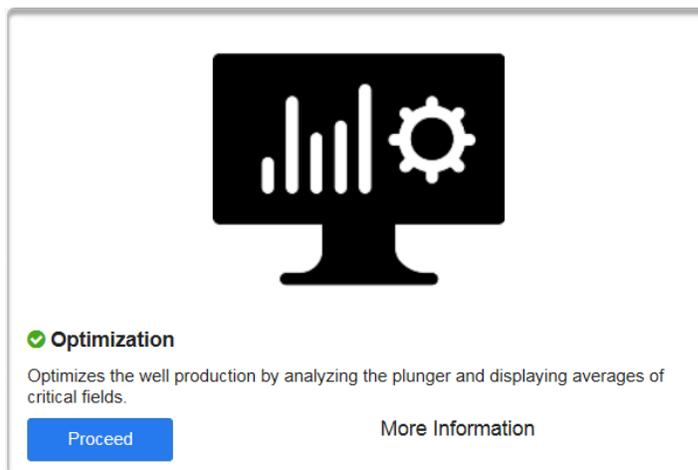

Figure 38: Activated feature (Optimization)
- 4) Ensure that activation was successful. Figure 38 shows the activated Optimization feature as an example. A check mark is now displayed next to the feature name and a Proceed button is now available to access the application.